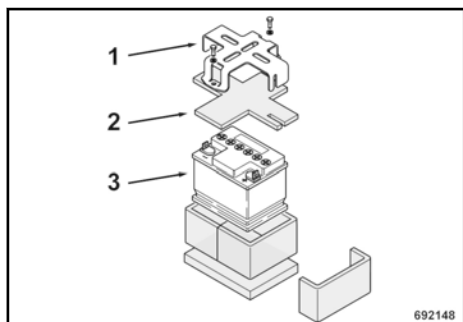

Fig. 44
Unscrew bracket (1) ↪ Fig. 44 of the battery.